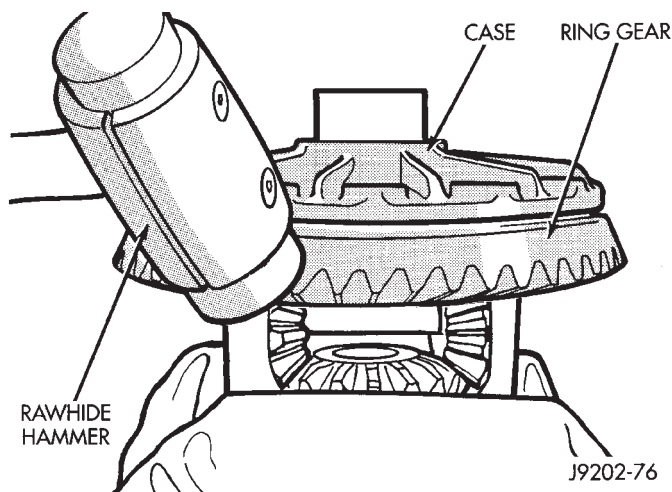

Fig. 42 Ring Gear Removal
- (1) Remove differential from axle housing.
- (2) Place differential case in a suitable vise with soft metal jaw protectors. (Fig. 42)
- (3) Remove bolts holding ring gear to differential case.
- (4) Using a soft hammer, drive ring gear from differential case (Fig. 42).